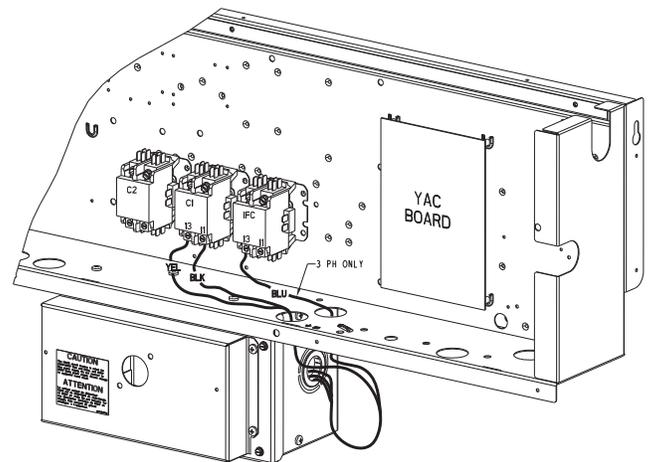

Fig. 28 — HACR Enclosure Location
2. Remove (3) hex screws on the HACR enclosure — (2) on the face of the cover and (1) on the left side cover. See Fig. 28.